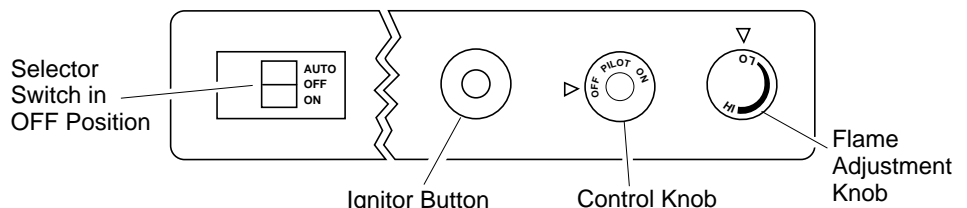

Figure 35 - Control Knob and Ignitor Button Location (Shown as Supplied, No Control Options)
5. Wait five (5) minutes to clear out any gas. Then smell for gas, including near the floor. If you smell gas, **STOP!** Follow "B" in the safety information. If you don't smell gas, go to the next step.
6. Press in and turn control knob counterclockwise  to the PILOT position. Press in control knob for five (5) seconds (see Figure 35).